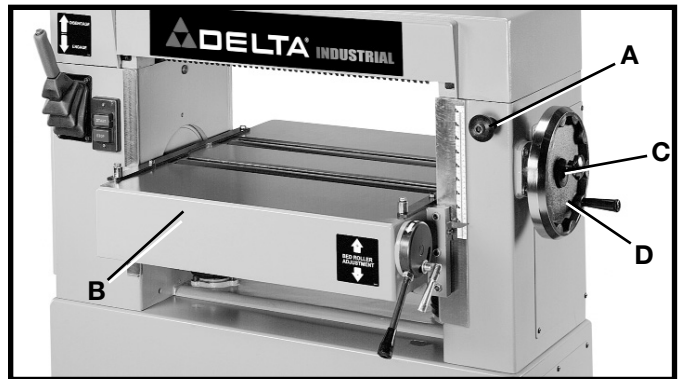

Fig. 4
Two lifting lugs are built into the machine, one of which is shown at (A) Fig. 4. These lugs can be used to mechanically lift the machine using a forklift and lifting straps. **NOTE:** The other lifting lug is located at the rear and the opposite end of the machine. Carefully remove the planer from the shipping skid.
If it is necessary to lower the table (B) Fig. 4, to facilitate cleaning, loosen lock knob (C) and turn handwheel (D) counterclockwise until the table (B) is at the desired height for cleaning.